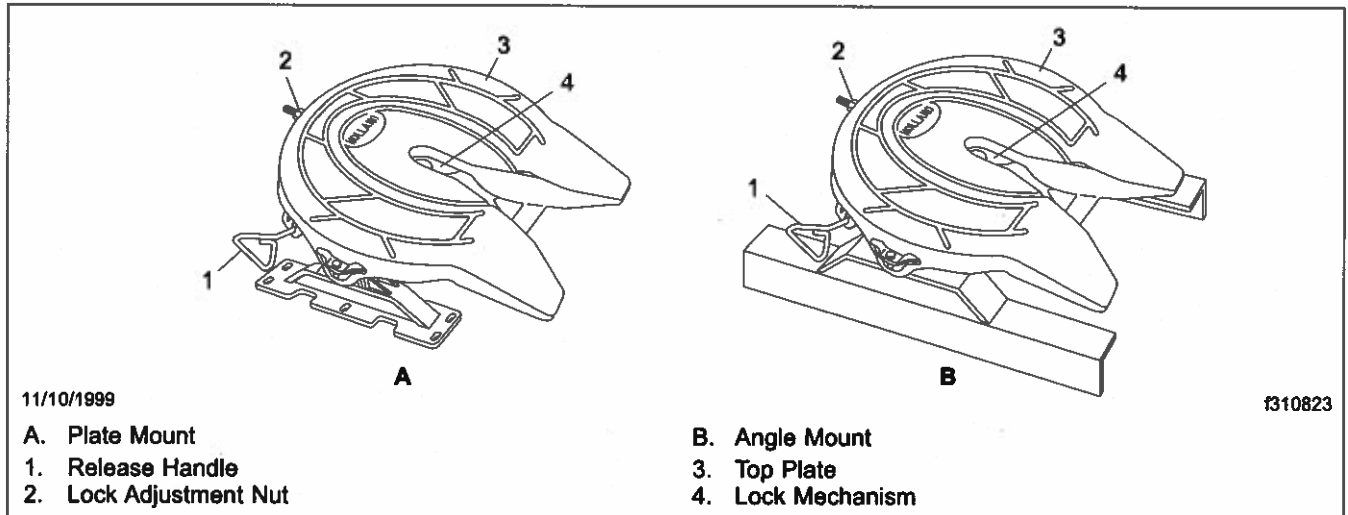

Fig. 10.1, Holland 3500 Series Fifth Wheels
Holland 3500 Series stationary fifth wheels are best suited for applications where the axle loading, kingpin setting, and vehicle combination length all remain constant throughout the fleet. The stationary fifth wheel can be a plate mount or an angle mount. See **Fig. 10.1**.
6. Release the kingpin locking mechanism by pulling the release handle (**Fig. 10.1**) all the way out.